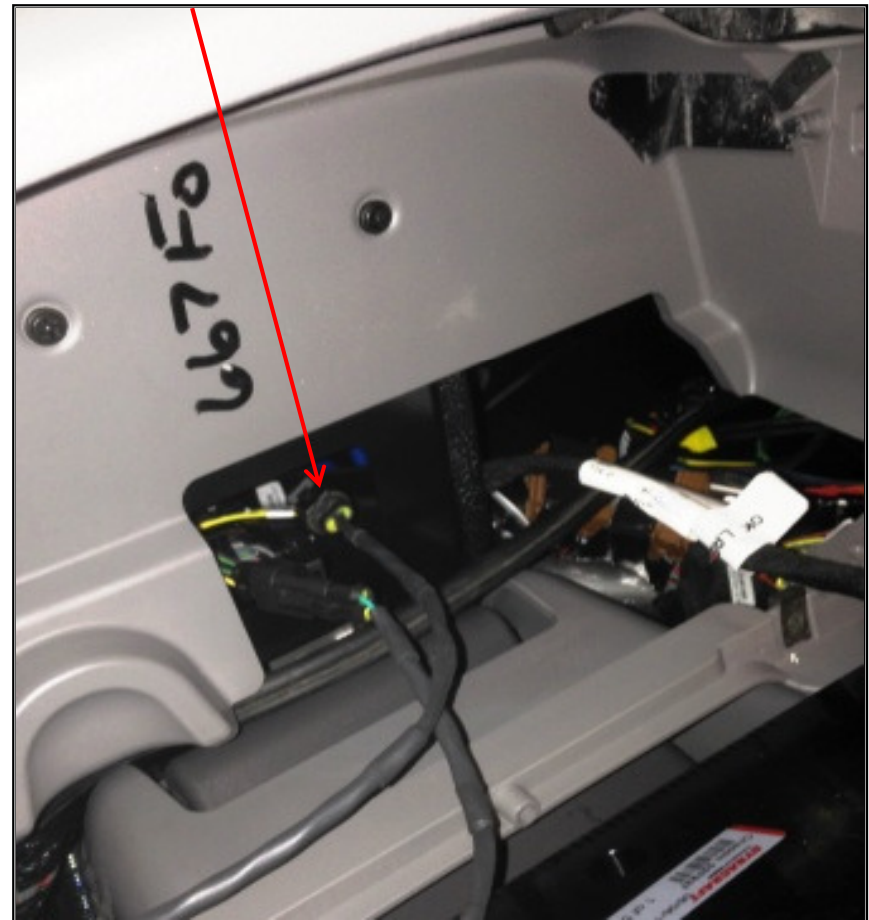

Figure 4
4. Remove speedometer panel to expose J1939 connector “black superseal connector marked J1939 “V” CAN, move connector to accessible position and separate “Figure 4”.